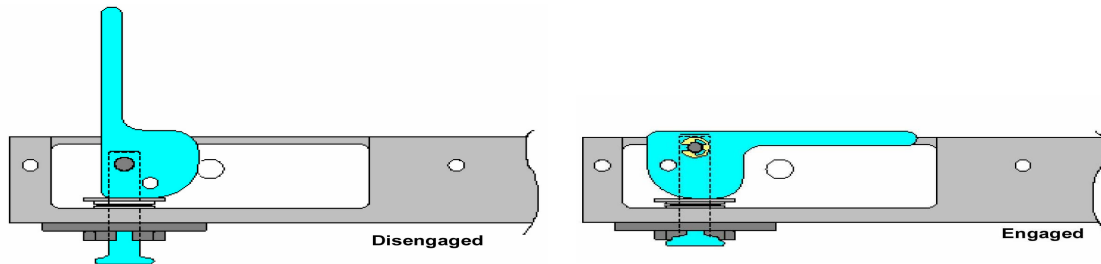

Figure 6-2.- Lever Positions
3. Rotate levers (four) into disengaged position (see Figure 6-2)